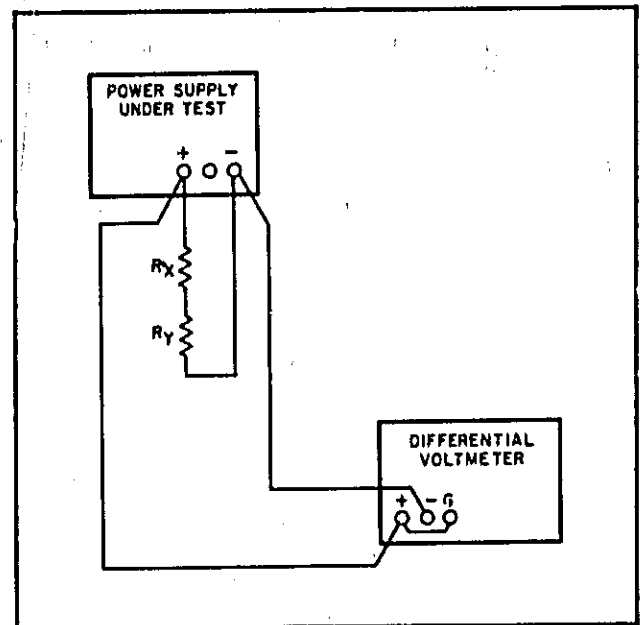

Figure 5-5. Load Regulation, Test Setup
a. Connect test setup as shown in Figure 5-5.
c. Connect test setup shown in Figure 5-5.
a. Connect test setup shown in Figure 5-5.
- a. Connect test setup shown in Figure 5-5,